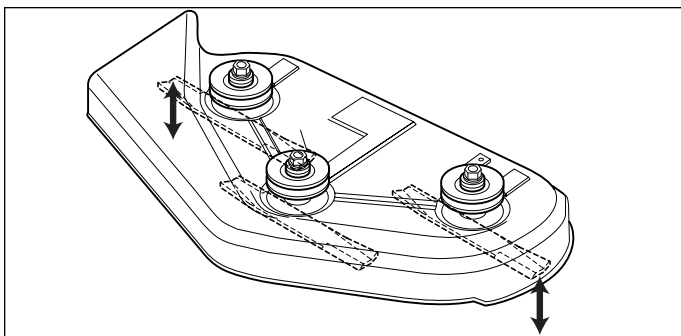

Figure 27. Orient Blades Side-to-Side
3. Place the mower cutting height lever in the fourth adjustment notch from the bottom. Arrange the outside mower blades so that they are pointing from side-to-side (Figure 27).
4. Measure the distance between the outside tips of each blade and the ground (Figures 27 & 28). The measurement should be 3" (7,6 cm), +/- 1/8" (3mm). If there is more than 1/8" (3mm) difference between the measurements on each side, proceed to step 5. If the difference is 1/8" (3mm) or less, proceed to step 6.